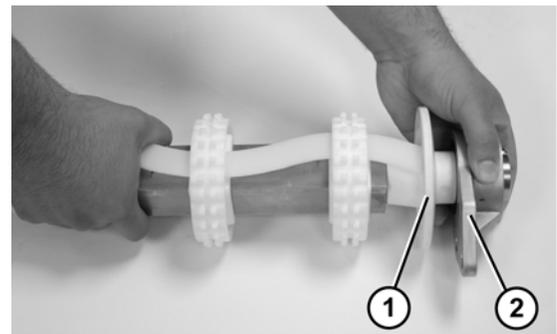

Figure 68
- Attach the flanged pucks (Figure 68, item 1) and the 3 hole flange with bearing (Figure 68, item 2) to the drive spindle.